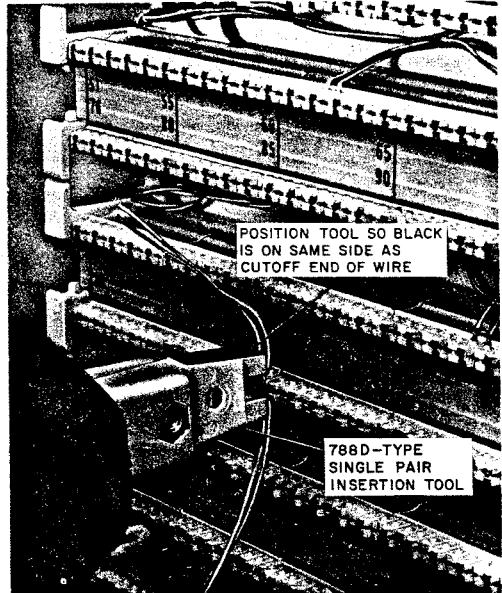

Fig. 19—Seating Cross-Connecting Wire
6.02 Using a single pair wire insertion tool (see Note) seat the cross-connecting wire into the connecting blocks as shown in Fig. 19.